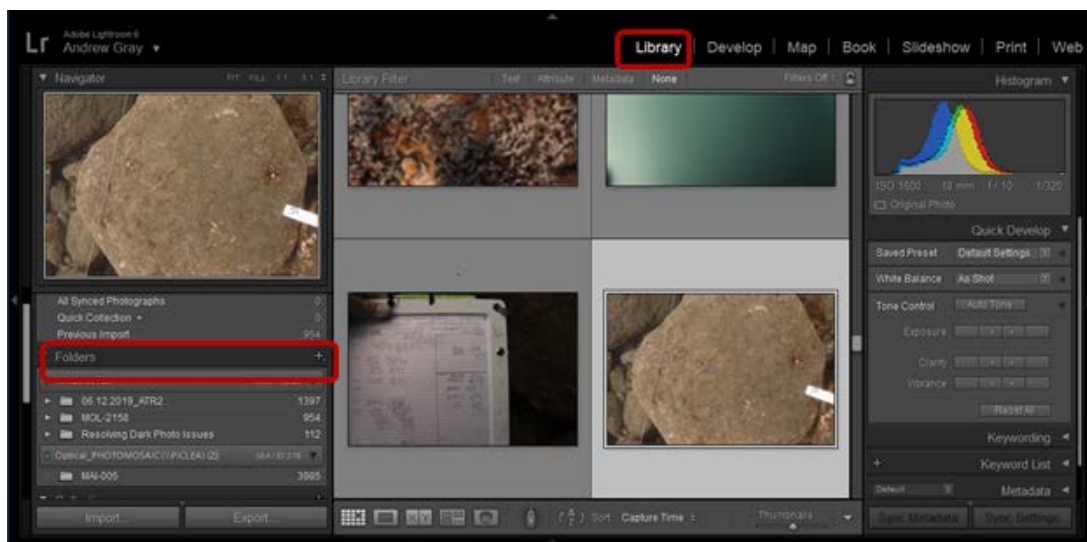

Figure 10. Lightroom interface highlighting the 'Library' tab and the 'Folders' selection in the sidebar.
1. Open Lightroom and in the 'Library' tab click the '+' next to 'Folders' in the side bar (Figure 10).